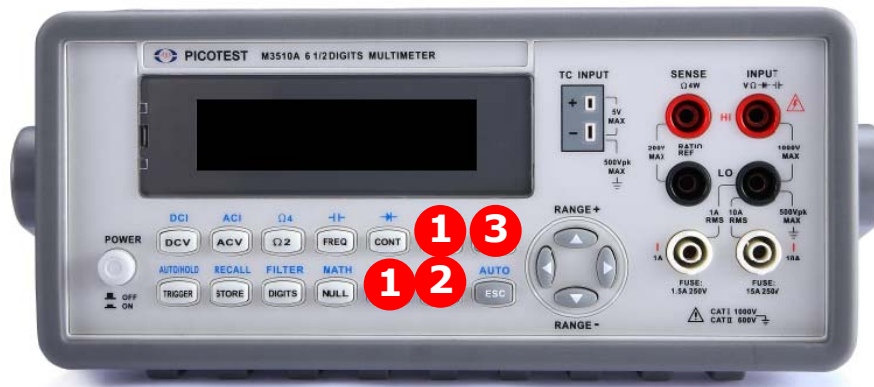

Figure 4-9
1. Press SHIFT+ TEMP to choose thermocouple function as shown in **Figure 4-9**.